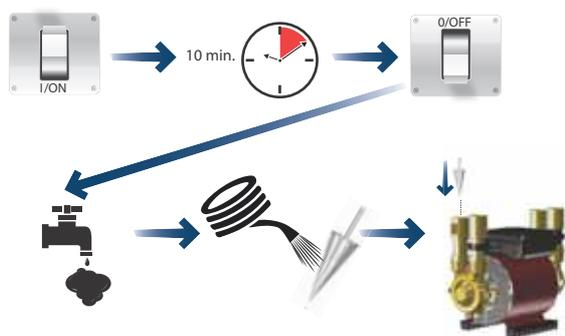

Fig. 27 Cleaning the inlet strainer
5. Switch on the power supply, run the pump for a few minutes, switch off, drain down and clean the inlet strainers. See fig. 27.